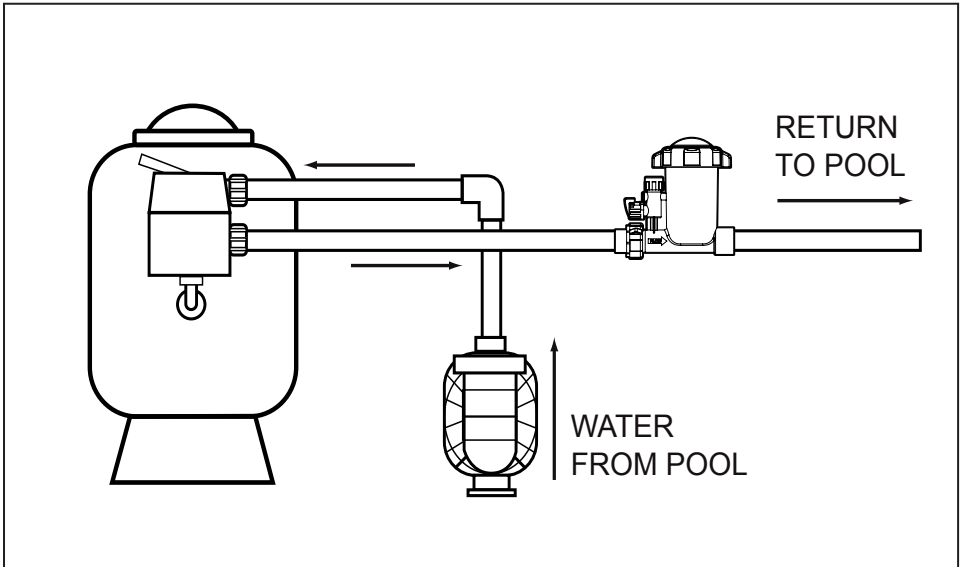

Figure 3b. Rigid Pipe Installation Configuration
- If the pool is plumbed with 1-1/2" PVC pipe, use bushings installed directly into the outlet side of the feeder and install the union fitting provided for the inlet. (Fig. 3b)